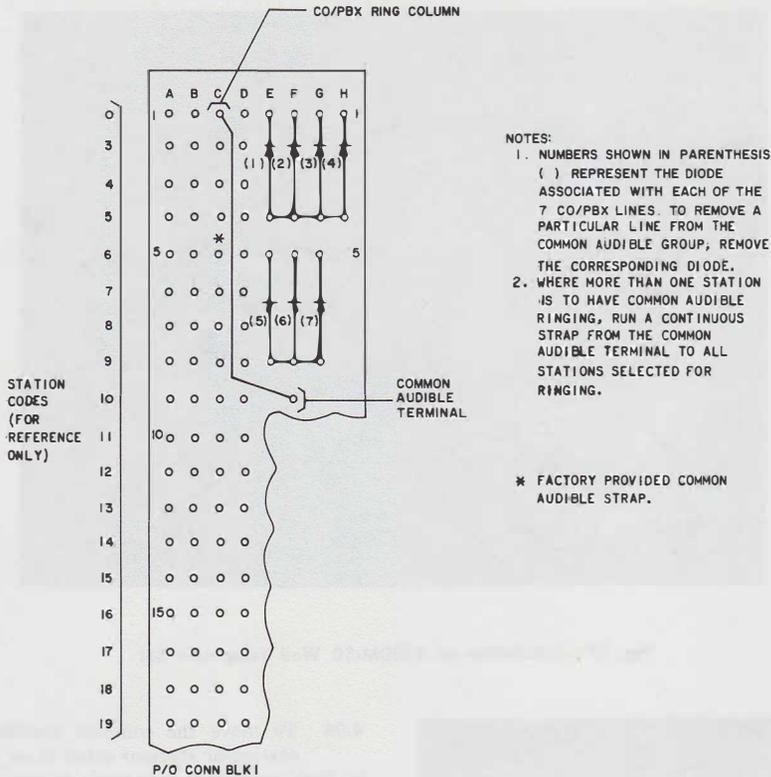

Fig. 29—Connections for Common Audible
4.05 The 7A System is factory-wired for the attendant station (intercom code 0) to receive **tone ringing** whenever there is an incoming call on any of the CO/PBX lines. (The lamp under the associated CO/PBX line button flashes for visual identification of the calling line.) See Fig. 29 for connections.
corresponding common audible diode from connecting block 1 (Fig. 29). When a CO/PBX is removed from the common audible ringing arrangement: